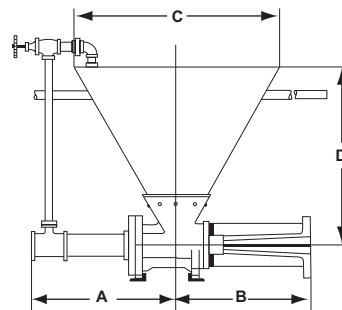

Fig. 254(1)
### Fig. 254 and Fig. 267 and Fig. 227 Hopper-Equipped Eductors
Fig. 254 and Fig. 267 Hopper-Type Eductors are made for handling slurries or dry solids in granular form and are used extensively for ejecting sludges from tank bottoms, for pumping sand from filter beds
**Fig. 18. FIG. 254 HOPPER-EQUIPPED EDUCTOR.** Standard units are made in cast iron and have hardened steel nozzles and throat bushings. Special materials are also available on special order. Both nozzles and throat pieces are removable and pressure and discharge connections can be fitted for hose where maximum portability is desired. Handles and supporting feet are optional.
A typical application of Fig. 254 Eductor is shown in the application section of this bulletin, beginning on page 12. Wash-down nozzles keep the material from adhering to the sides of the hopper and keep it moving down into the eductor. Pressure water, passing through the eductor nozzle, entrains the sand, sludge or other materials and discharges into the piping system.
**Table 6. Sizes and Dimensions, Fig. 254(1) and Fig. 267(2) Hopper-Equipped Eductors**
FIG. 254(1)
One arrangement for handling granular solids with the Fig. 254 Eductor is illustrated here. In this installation, granular solids drop from a storage hopper into a vibrating feeder which feeds the solids into the eductor hopper at a controlled rate. Water, bypassed from the pressure line, flows through nozzles located in the hopper and washes the solids into the eductor. There they are entrained by the jet action of the pressure water and are discharged. Although the material can be placed in the hopper manually, this system reduces handling and controls the flow of solids.